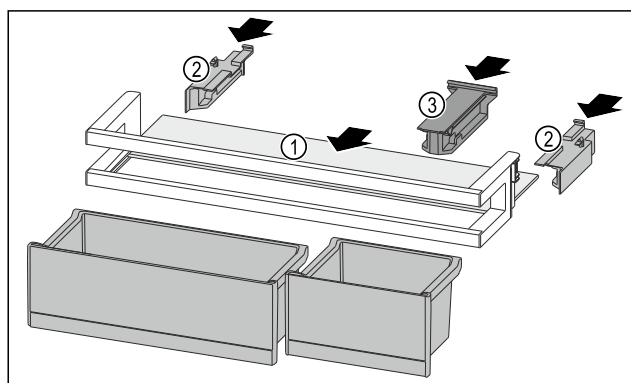

Fig. 171
- Push the shelf Fig. 171 (1) into the side recesses.
- Insert the side parts Fig. 171 (2).
- Insert the holding part Fig. 171 (3).